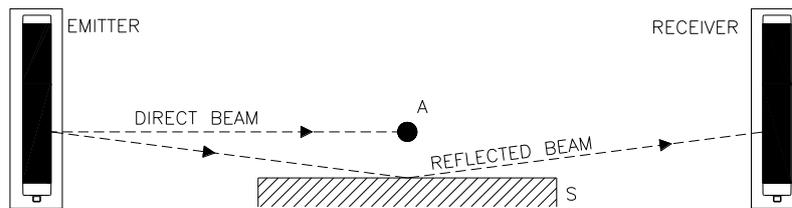

Figure 4 - Reflective surfaces
- The presence of reflective surfaces close to the light curtain may cause occasional reflections that prevent sensing. Referring to Figure 4, object **A** is not detected due to surface **S** that, reflecting the beam, closes the optical path between the Emitter and Receiver. Therefore, a minimum distance **d** must be maintained between any reflecting surfaces and the guarded area.